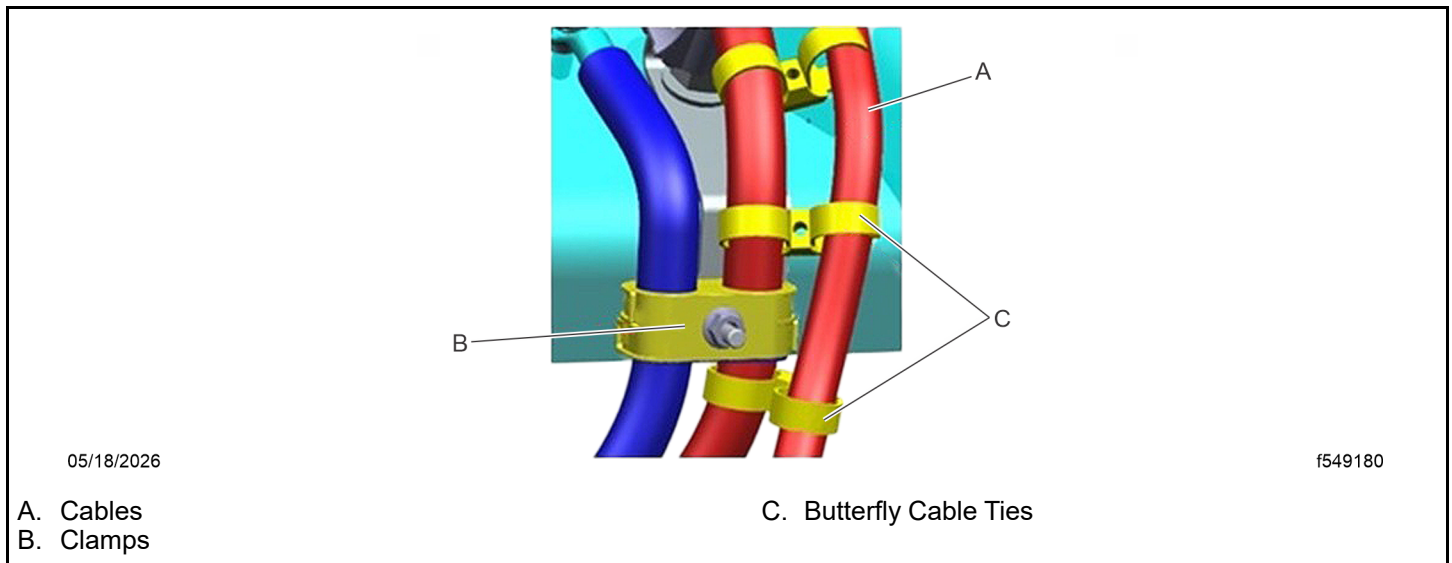

Fig 85, Butterfly Cable Ties Around the Cable Clamps
45. Install the upper and lower cable clamps on the isolator frame bracket. To prevent cables (A) from rubbing, secure any cables routed on the outside cable clamps (B) using butterfly cable ties (C) (TYCDCT110HIR). See Fig. **Fig. 85**.